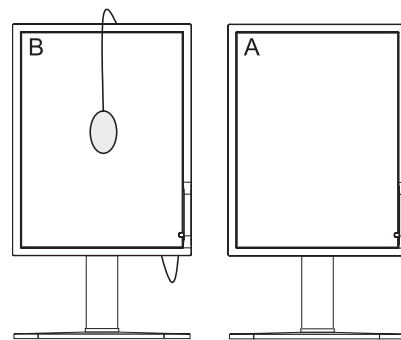

Figure 8
7. Remove USB sensor from source Display A and place in the center of Display B (**Figure 8**).